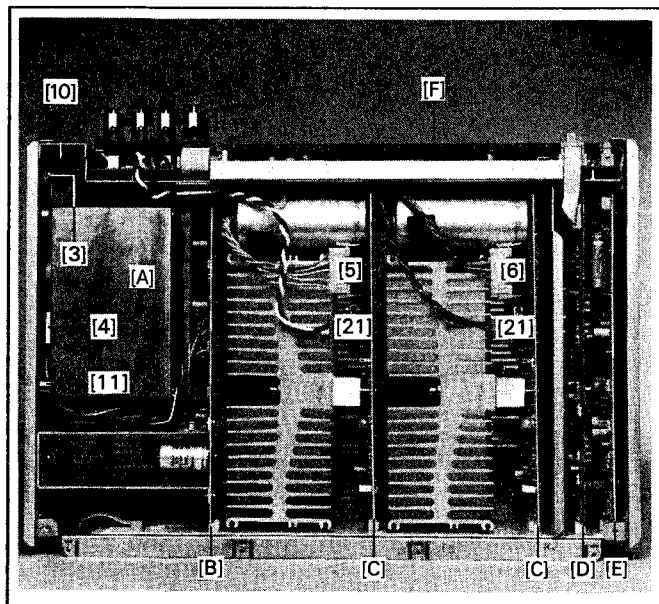

Fig. 2.3
- Separate the three plug connections (16), (18), (20).
- Unplug and expose the two cables (21) to the output stages (Fig. 2.3).
- Unfasten the five mounting screws (22) of the circuit board.
- Unfasten the two screws (23) of the D-type connector on the bottom of the amplifier.